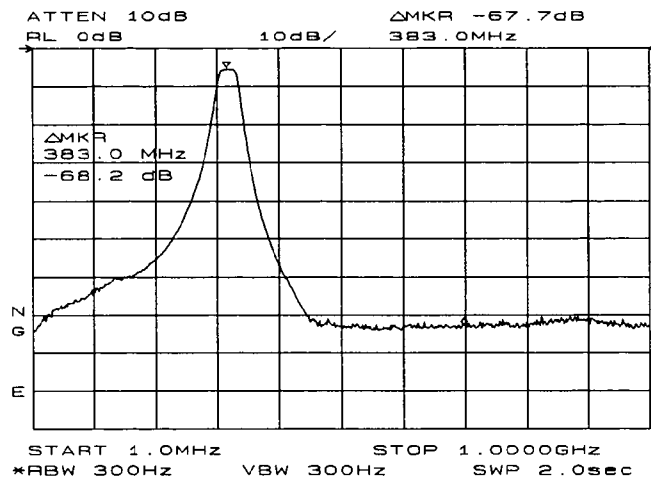

Figure 3-24. Measure the rejection range with delta markers.
- Measure the range using the delta markers. Press **PEAK SEARCH**, **MARKER DELTA**, and use the knob to position the second marker in the rejection area of the bandpass filter as shown in Figure 3-24.